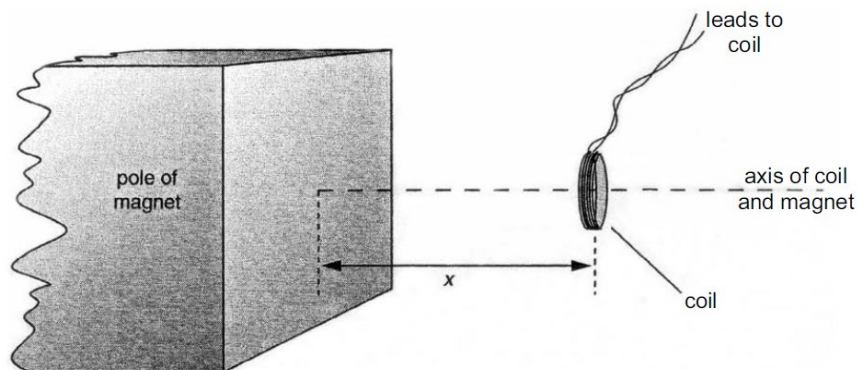

Fig. 2.1
- 2 A small coil is positioned so that its axis lies along the axis of a large bar magnet as shown in Fig. 2.1.
- 4 A spring is attached to a sheet of aluminium and a mass, as illustrated in Fig. 2.1.